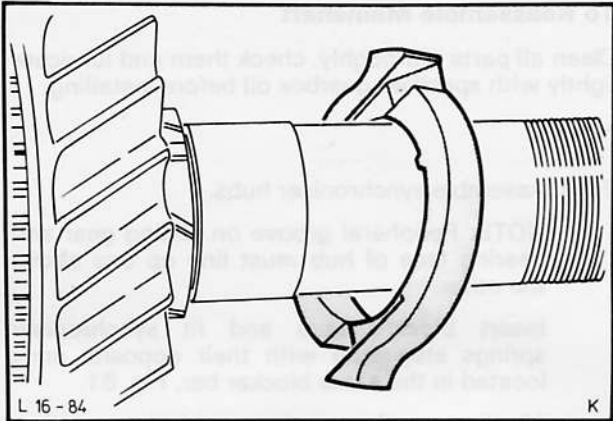

Fig. 84. Oil scoop ring with oil groove facing gear
24. Fit oil scoop ring with oil groove facing the gear, Fig. 84.